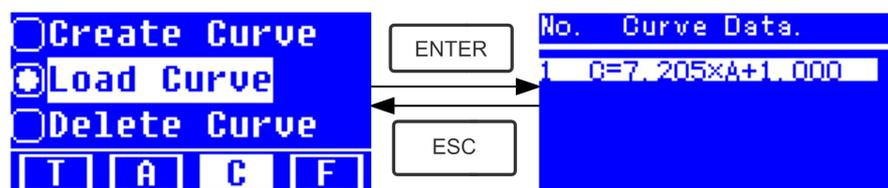

Fig. 4-13
- ★ Move the cursor on "Load Curve" and press to confirm. Then the system will go into the curve equation record interface.(Fig. 4-13)